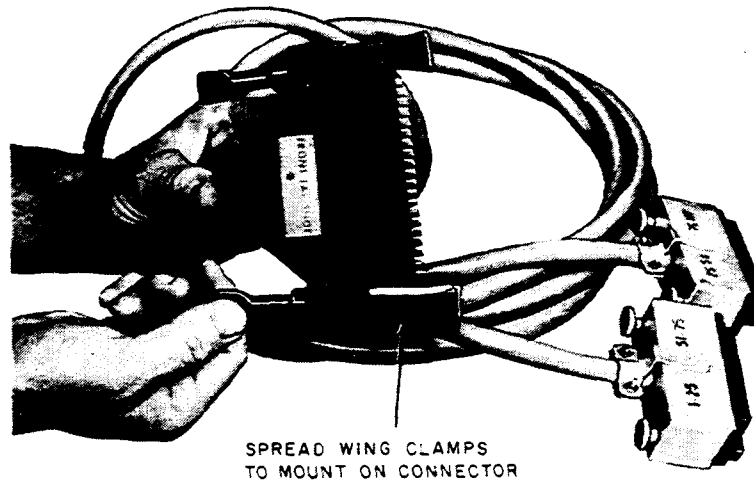
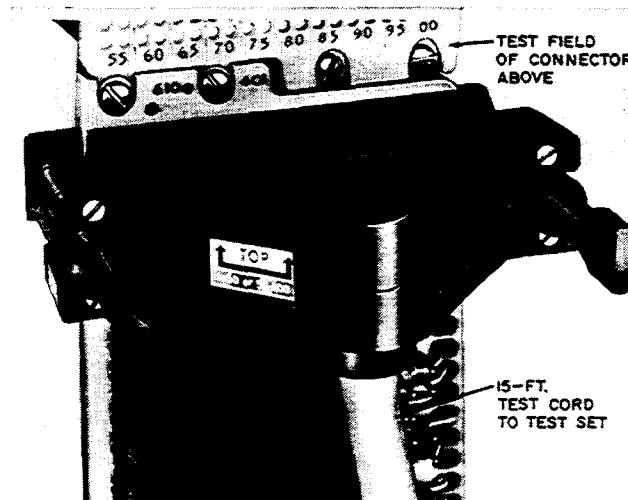

Figure 16—Test Connector Clamps
Figure 17—Test Connector Mounted on Connector Test Field
6.10 To mount the test connector, spread the wing clamps (Figure 16) and fully insert the test pins into the 303-type connector test field jacks. Figure 17 shows the test connector mounted on a 303-type connector.